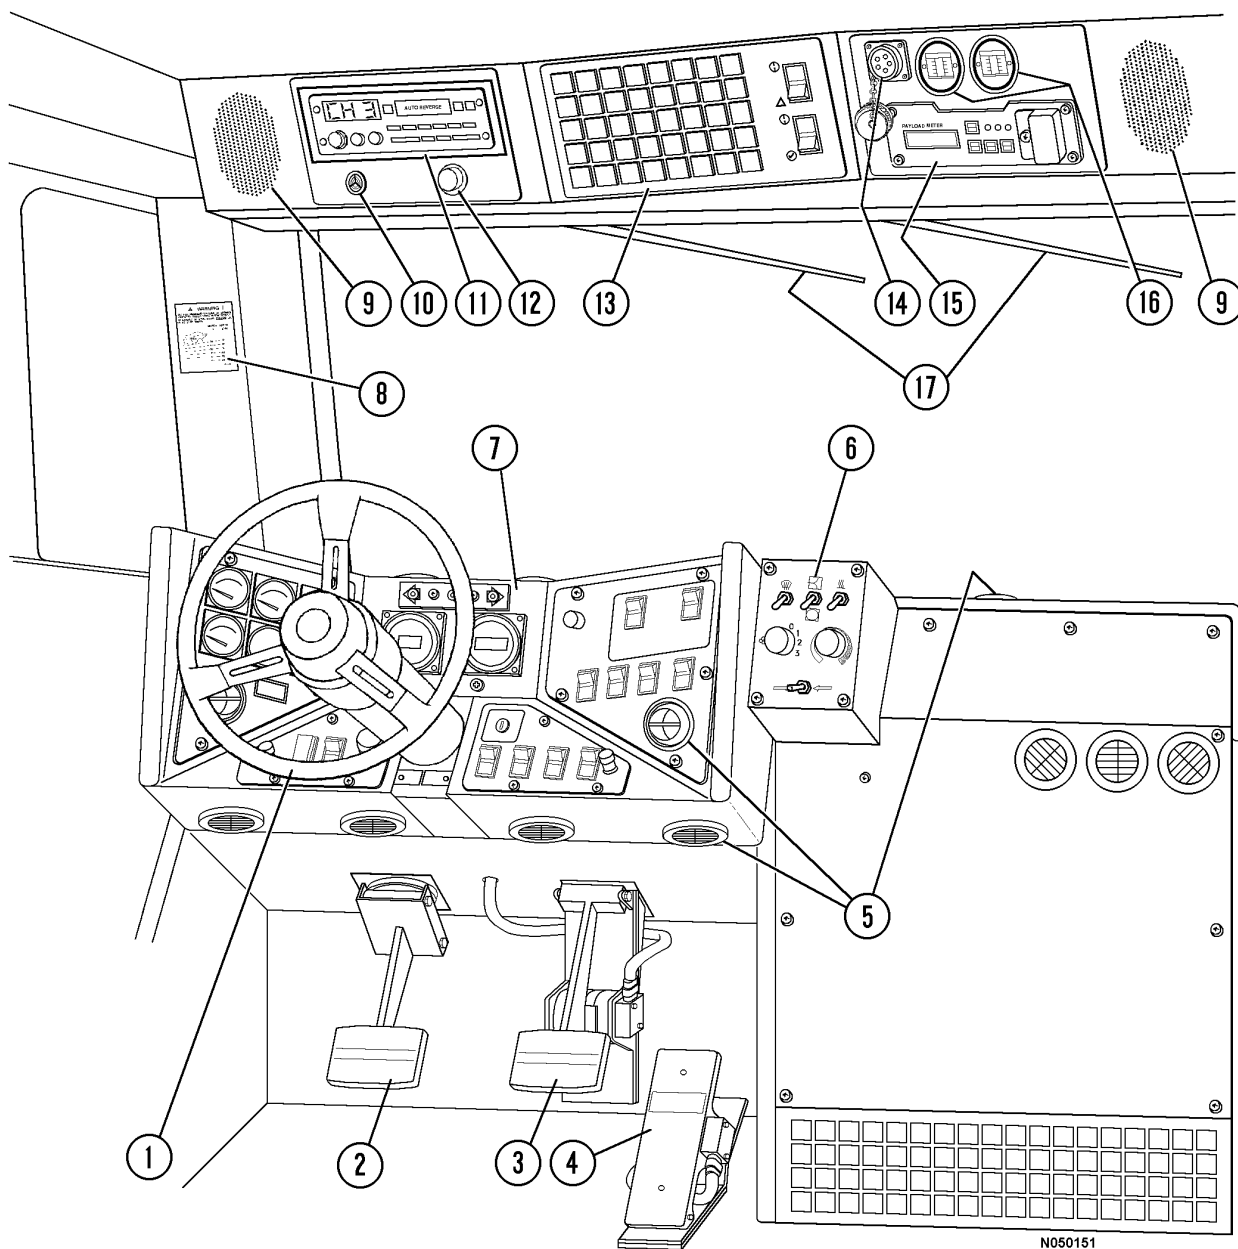

FIGURE 3-1. CAB INTERIOR - OPERATOR VIEW
The Service Brake Pedal (2, Figure 3-1) is a foot-operated pedal which applies the service brakes.
The Dynamic Retarder Pedal (3, Figure 3-1) is a foot-operated pedal which allows the operator to slow the truck and maintain a safe productive speed without the use of the service brakes. For normal truck operation, only dynamic retarding should be used to slow and control the speed of the truck. The Grade/Speed Chart (8, Figure 3-1) should always be followed to determine MAXIMUM safe truck speeds for descending various grades with a loaded truck. Service brakes should be applied only when dynamic retarding requires additional braking force to slow the truck speed quickly and to bring the truck to a complete stop.
The Throttle Pedal (4, Figure 3-1) is a foot-operated pedal which allows the operator to control engine RPM, depending on pedal depression.
The operator has complete control of the air flow in the cab. The heater/air conditioner vents (5, Figure 3-1) are a flapper type which may be individually opened or closed and may be rotated 360° for optimum air flow. There are four (three not shown) across the top of the panel, two in front of the operator (one each in right and left panel modules), and four below the panel.
The heater/air conditioner compartment contains the heater/air conditioner controls (6, Figure 3-1) and the heater/air conditioner components, such as the blower motor assembly and heater coils. Optimum cab air climate can be selected by using the following controls in various combinations.
The Instrument Panel (7, Figure 3-1) includes a wide variety of switches, gauges, and indicators. Refer to INSTRUMENT PANEL AND INDICATOR LIGHTS, for a detailed description of function and location of these components.
The Grade/Speed WARNING chart (8, Figure 3-1) provides the recommended MAXIMUM truck speeds for descending various grades with a loaded truck.
Radio Speakers (9, Figure 3-1) for the AM/FM Stereo radio are located at the far left and right of the overhead panel.
This alarm (10, Figure 3-1) will sound when activated by any one of several truck functions.
This panel will normally contain an AM/FM Stereo radio (11, Figure 3-1). Refer to Section 6, for a more complete description of the radio and its functions. Individual customers may use this area for other purposes, such as a two-way communications radio.
This control knob (12, Figure 3-1) permits the operator to adjust the brightness of the Warning Indicator Lights. This Control may not be on all Model trucks.
This panel (13, Figure 3-1) contains an array of indicator lights to provide the operator with important status messages concerning selected truck functions. Refer to INSTRUMENT PANEL AND INDICATOR LIGHTS, for a detailed description of these indicators.
This connector (14, Figure 3-1) is used with a special cable to allow the Payload Meter (15) to communicate with a Portable Computer.
The Payload Meter (15, Figure 3-1) is used to provide management with operational data such as tonnage hauled and cycle times. Refer to Section 6, Optional Equipment, for a more complete description of the payload meter and its functions.
The air cleaner vacuum gauges (16, Figure 3-1) provide a continuous reading of maximum air cleaner restriction reached during operation. The air cleaner(s) should be serviced when the gauge(s) display the following **MAXIMUM** recommended restriction:
The windshield wipers (17, Figure 3-1) are powered by an electric motor. Refer to INSTRUMENT PANEL AND INDICATOR LIGHTS, for a location and description of the windshield wiper and washer controls.